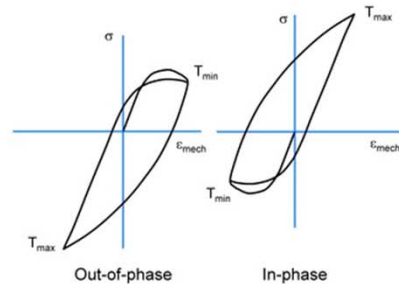

Figure 1 Load and Temperature Phasing
TMF loading is often described to be in-phase (IP) or out-of-phase (OP). A schematic illustration of the stress-strain response under these two loadings is given in Figure 1. In IP loading, the maximum temperature and strain occur at the same time. In OP loading, the material experiences compression at highest temperature and tension at lower temperatures. IP loading is more likely to cause oxidation damage because an oxide film can form in compression at the higher temperature and then rupture during the subsequent low temperature tensile portion of the loading cycle where the oxide film is more brittle.